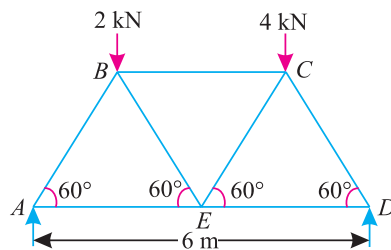

Fig. 14.19.
1. Figure 14.19, shows a warren girder consisting of seven members each of 3 m length freely supported at its end points. The girder is loaded at B and C as shown. Find the forces in all the members of the girder, indicating whether the force is compressive or tensile.